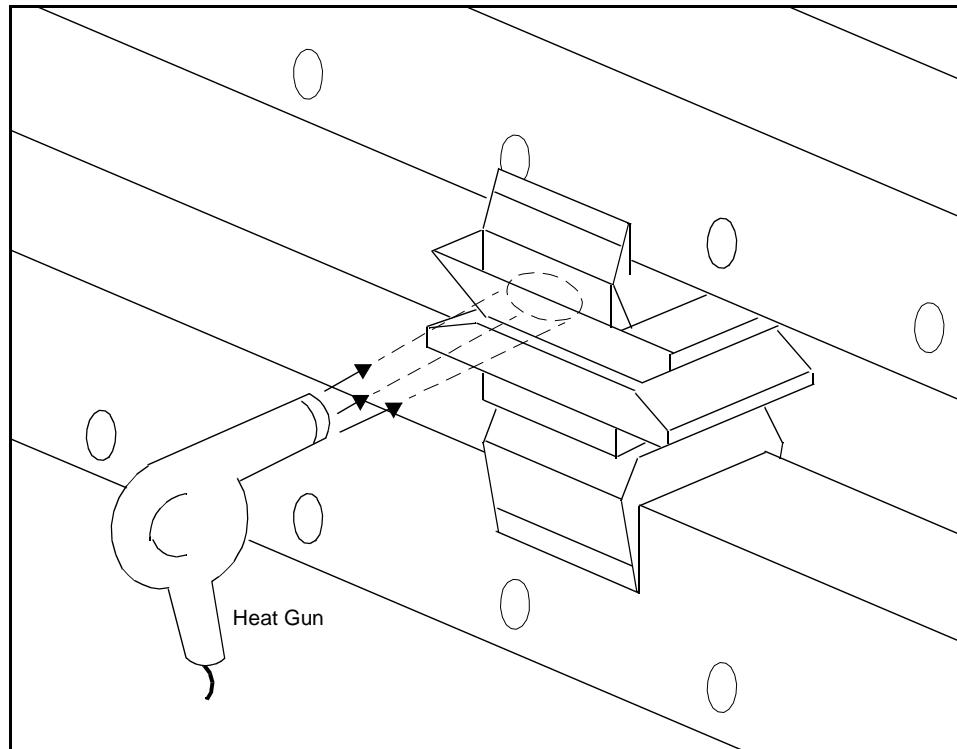

Figure 6-15 Heat Source for Fine Tuning dBWdT
1. Position the heating device in the machine direction at the front of the sensor package, exactly in line with the windows and parallel with the surface. Hold the heat source steady and 12 - 18 inches away from the sensor. See Figure 6-15.